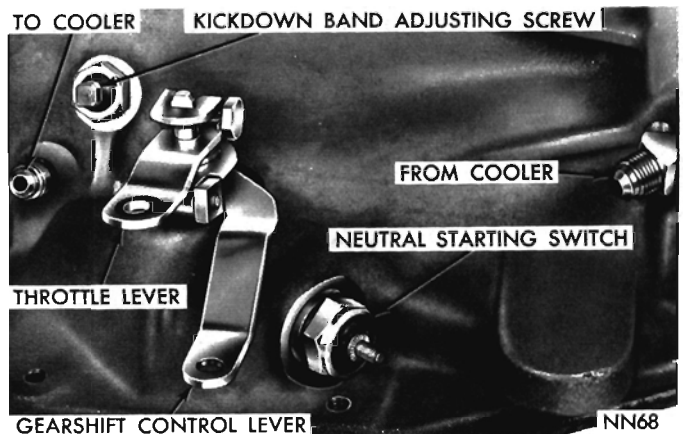

Fig. 7—External Controls and Adjustments
(2) Move transmission control lever (Fig. 7), all the way to rear (in park detent).
(3) With control lever on transmission in park position detent and selector lever in **PARK** position,
(3) With control lever on transmission in park position detent, and selector lever in **PARK** position, tighten swivel clamp screw to 100 inch-pounds.
The kickdown band adjusting screw is located on left side of the transmission case (Fig. 7).